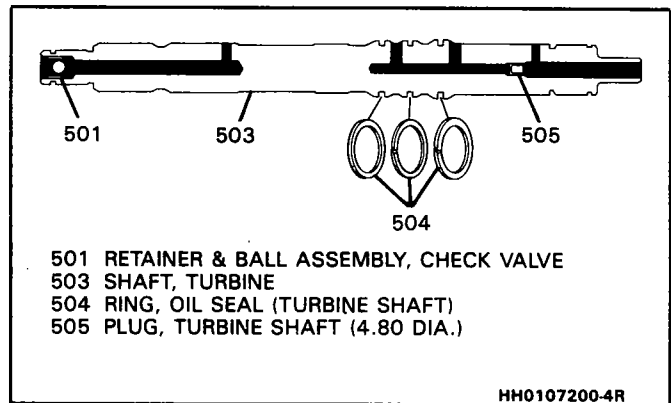

Figure 92 Turbine Shaft Seals
**Inspect (Figure 92)**
- Turbine shaft seal rings (504) for nicks, cuts, or damage.
- Presence of cup plug (505).
- Check valve retainer and ball assembly (501)